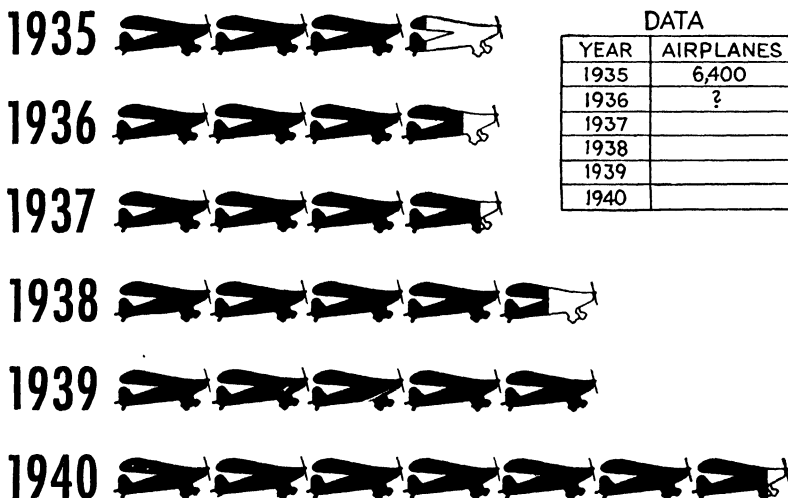

Fig. 141.—(Courtesy of Aviation.)
1. How many airplanes does each figure in Fig. 141 represent?